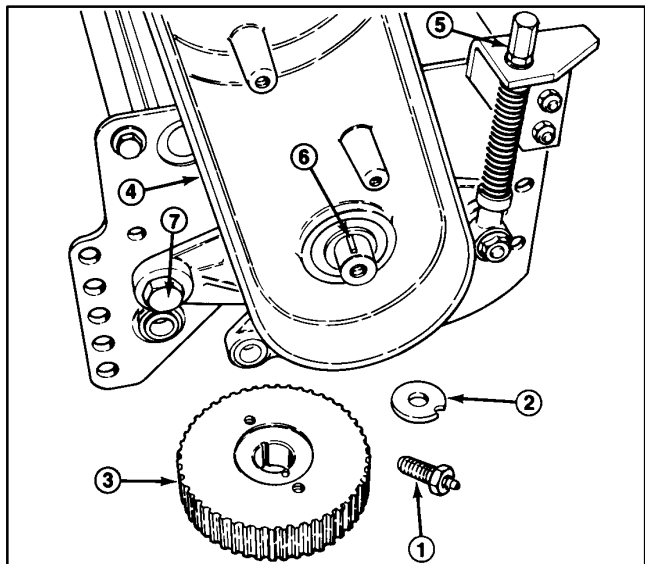

Figure 23
6. Disassemble cover from the drive housing and remove the drive belt from the housing (Fig. 23).
7. Remove reel capscrew, toothed washer, and pulley washer from the reel shaft (Fig. 23).
8. Remove driven pulley from the reel shaft using a puller. Remove woodruff key from the reel shaft (Fig. 23).
9. Remove adjustment assembly and cone nut, belle-ville washer, and shoulder bolt securing the drive housing to the side plate. Remove drive housing (Fig. 23).
2. Assemble outer seal (lip facing in to retain grease) into the drive housing using Loctite 242 (or equivalent) retaining compound on the outer diameter. Apply a light coat of oil to the seal lips and insert the bearing assembly through the seal from the opposite side (Fig. 23).
3. Apply a light coating of oil to the inner seal lips and install (lip facing away from the bearing and toward the reel) in the housing. Install retaining ring to secure the assembly in the housing (Fig. 23).
4. Apply a light coat of oil to the seal lips of the seal for the bearing housing and install (lip facing away from the bearing) over the bearing assembly (Fig. 23).